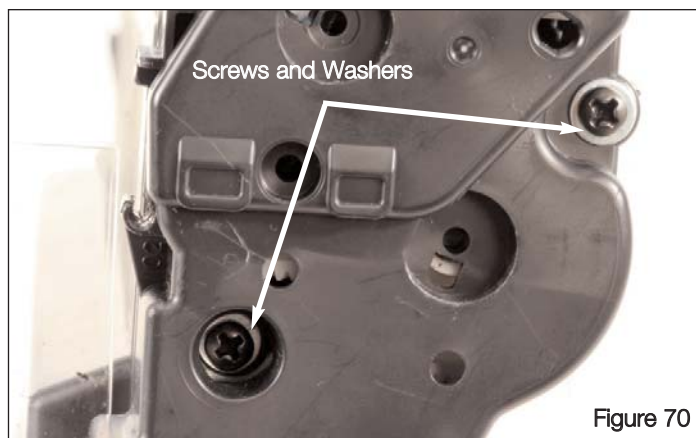

Figure 70
3. Fit the drive side end plate to the hopper section, and secure using screws and washers, see Figure 70.